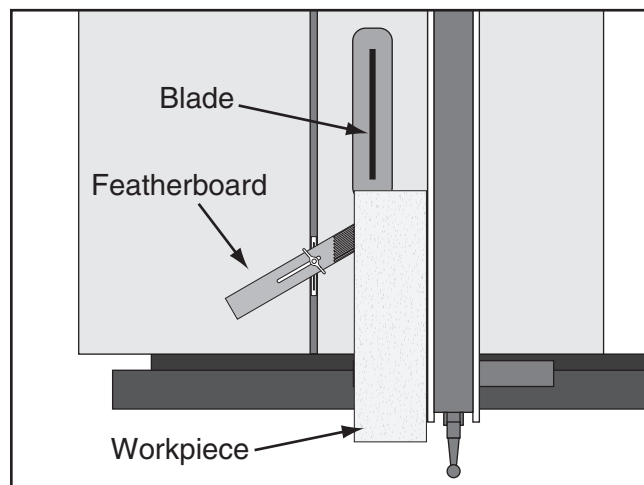

Figure 101. Featherboard installed in miter slot and supporting workpiece for ripping cut.
3. Slide the featherboard miter bar into the miter slot, making sure the fingers slant toward the blade, as shown in **Figure 101**.